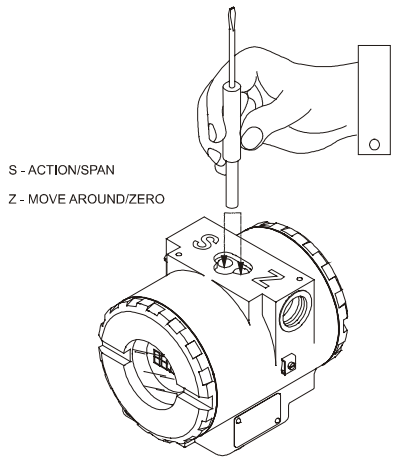

Fig. 4.1 – Local Zero and Span Adjustment and Local Adjustment Switches
The transmitter has, under the identification plate, holes for two magnetic switches activated by the magnetic tool (See Figure 4.1).
- ✓ Insert the magnetic tool in the ZERO adjustment hole. (See Figure 4.1)